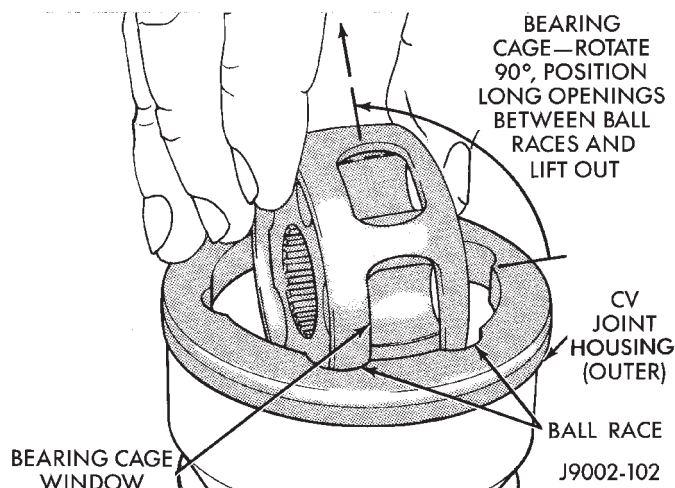

Fig. 16 Bearing Cage & Hub Removal
(11) Repeat the step above until all six balls are removed from the bearing cage.
(12) Tilt the bearing cage and hub to a vertical position. Remove the cage from the housing. Pull cage upward and away from the housing (Fig. 16).